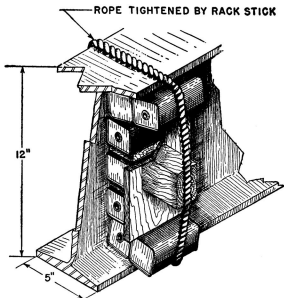

FIGURE 104.—How to blow 12-inch I-beam. Note location of TNT blocks.
c. Steel.—The effects of an explosion are very localized in steel. Only that portion of steel which is in close contact with the explosive charge is cut. A concentrated charge placed on a steel plate will simply blow a hole in the plate or dent it directly under the charge. Therefore, if it is desired to cut a steel plate, the explosive charge must be distributed over the entire line along which the cut is desired. Likewise in cutting steel I-beams, built-up girders, columns, etc., the charge must be distributed so that the entire cross section of the member will be cut. (See fig. 104.) Charges must never be placed directly opposite one another on opposite sides of a steel plate or members. When charges must be placed on opposite sides they should be 3 inches apart along the member.